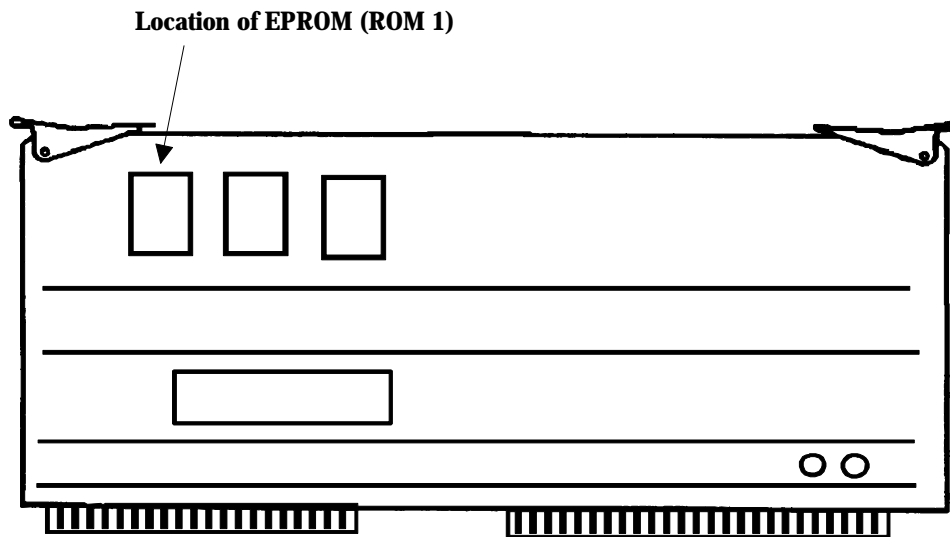

Figure 2
11. Remove the EPROM from position ROM 1 and insert updated EPROM version 23.2 (refer to figure 2).
7. Remove the EPROM in position ROM 1 and insert updated EPROM version 23.2 (refer to figure 2).